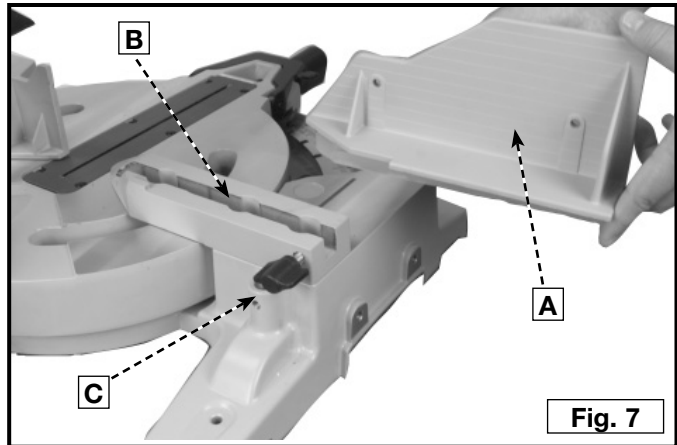

Fig. 7
The saw is equipped with two fences. The fence that is shipped bolted to the table should remain and needs no adjusting. The other fence piece (A) Fig. 7 is adjustable and should be placed as close to the blade as possible for all bevel or straight cuts to provide adequate support and for an accurate cut.